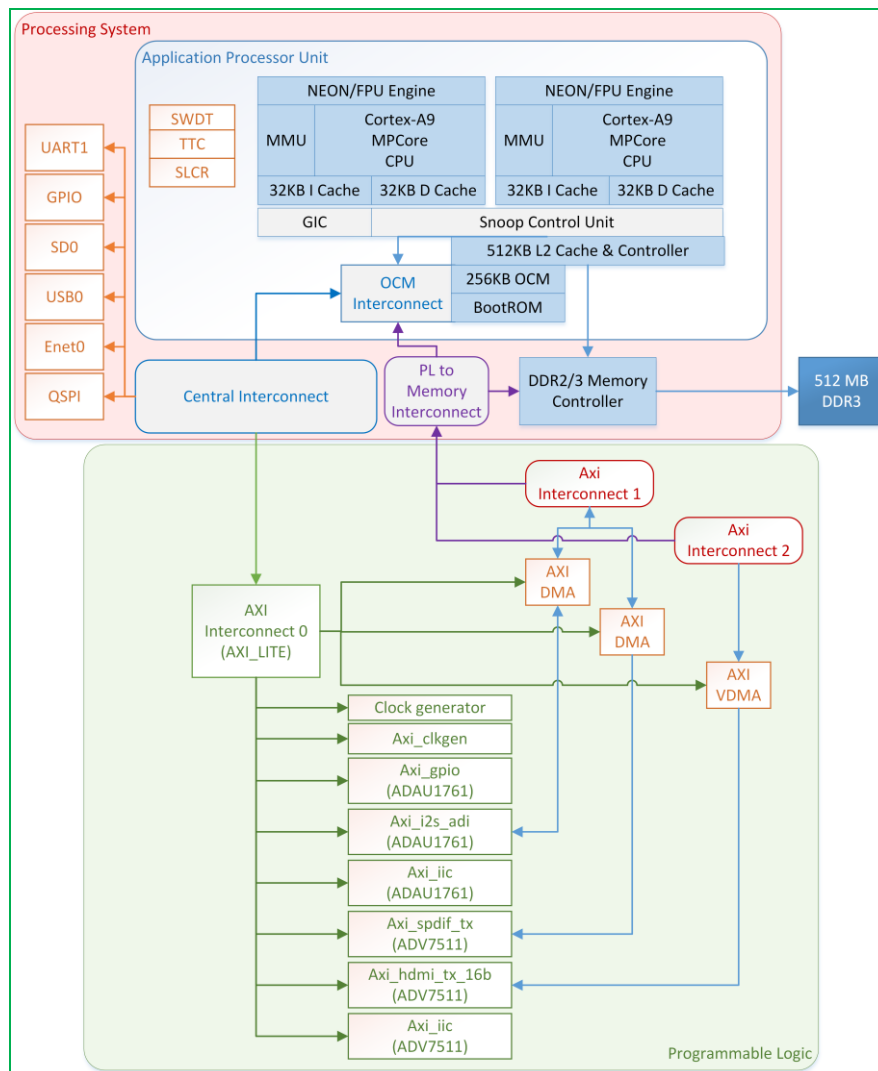

Figure 1. Basic Hardware System Architecture for ZedBoard
Figure 1 is a block diagram of the ZedBoard hardware design. The ZedBoard Zynq Processing System (PS) cores support all of the attached hardware in the following list.